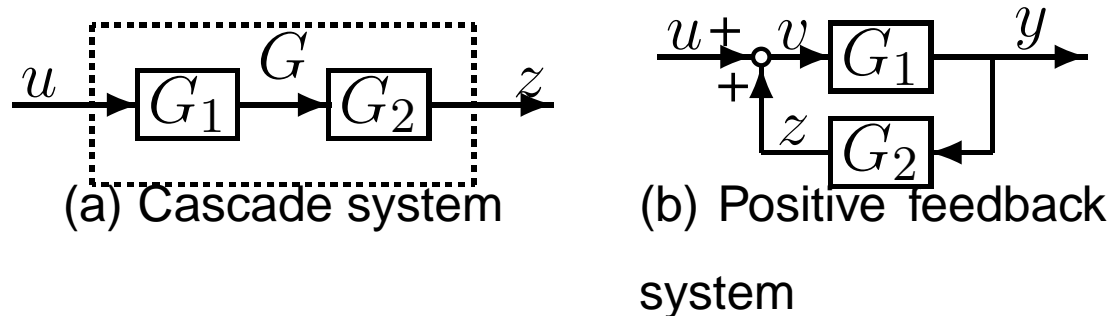

Figure 1: Block diagrams for the cascade rule and the feedback rule
1. **Cascade rule.** (Figure 1(a)) $G = G_2 G_1$
2. **Feedback rule.** (Figure 1(b)) $v = (I - L)^{-1} u$ where $L = G_2 G_1$